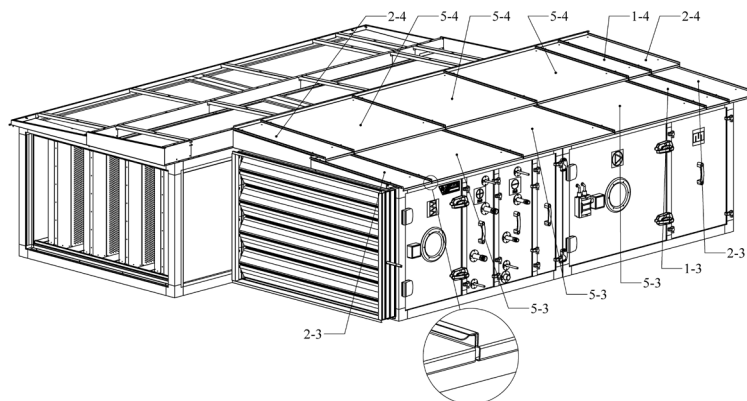

Figure 7.5
10. Fit the roof segments of a certain width with the same spacing of the frame and attach to the frame by self-taping screws supplied with the unit as shown in Figure 7.5.